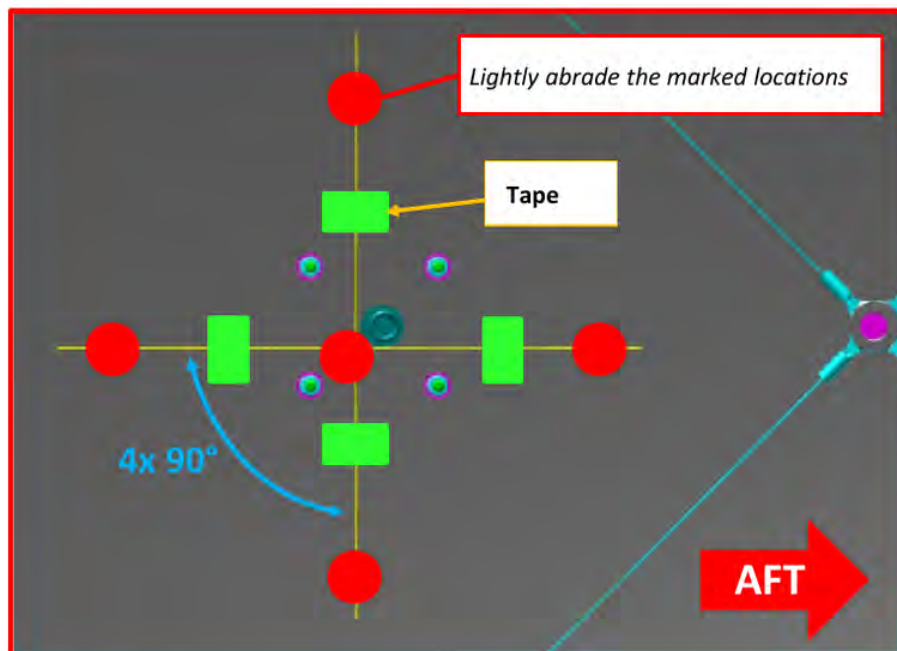

FIGURE 14-81
2. Remove tape and ground wires from engine cowl. (See Figure 14-81.)